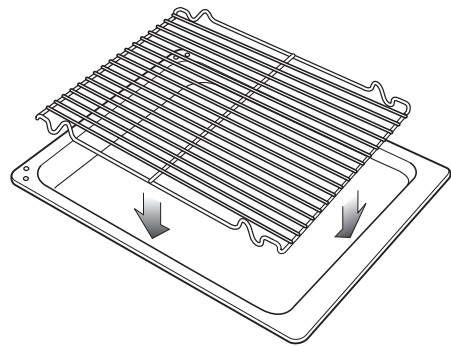

Fig. 3.10
- Introduce the grill-pan (tray + grid) (fig. 3.10) in the oven and insert it on the second level from the top (fig. 3.9).